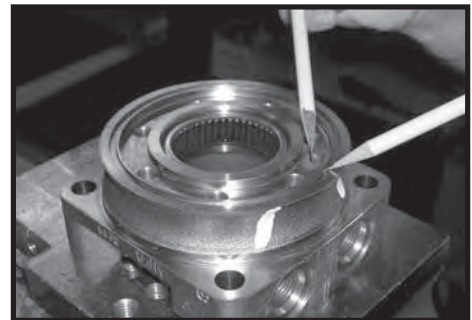

Figure 23
19. Inspect housing (18) assembly for cracks, the machined surfaces for nicks, burrs, brinelling or corrosion. Remove burrs that can be removed without changing dimensional characteristics. Inspect tapped holes for thread damage. SEE FIGURE 23. If the housing is defective in these areas, discard the housing assembly.